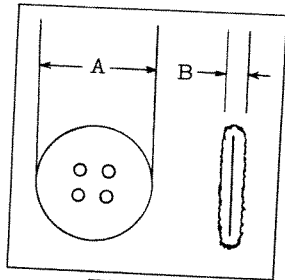

Fig. 30
Buttonholes of various widths and lengths can be made easily. To establish the correct length buttonhole required add $\frac{1}{8}$ inch to the desired cutting space for bar tacks. To obtain the length of the cutting space, the opening through which the button passes is measured by adding the width (A) and thickness (B) of the button.(Fig.30).